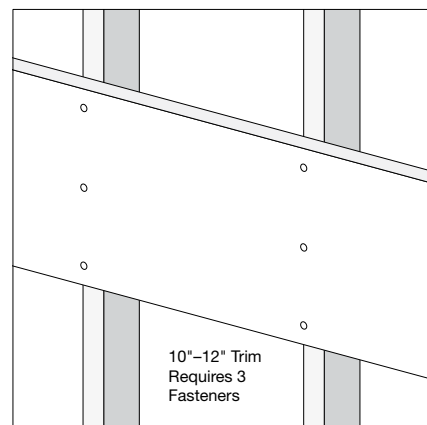

Fig. 6
- 10" and 12" Klear Trimboards require three fasteners evenly spaced across the face of the board and fastened to 1-1/2" thick framing no more than 16" on-center (**Fig. 6**).